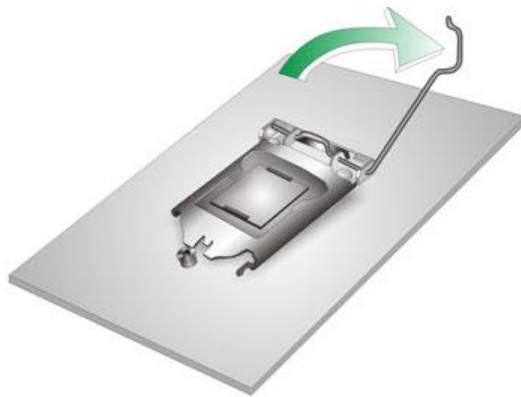

Figure 3-3: Disengage the CPU Socket Load Lever
Step 1: **Disengage the load lever** by pressing the lever down and slightly outward to clear the retention tab. Fully open the lever. See **Figure 3-3**.